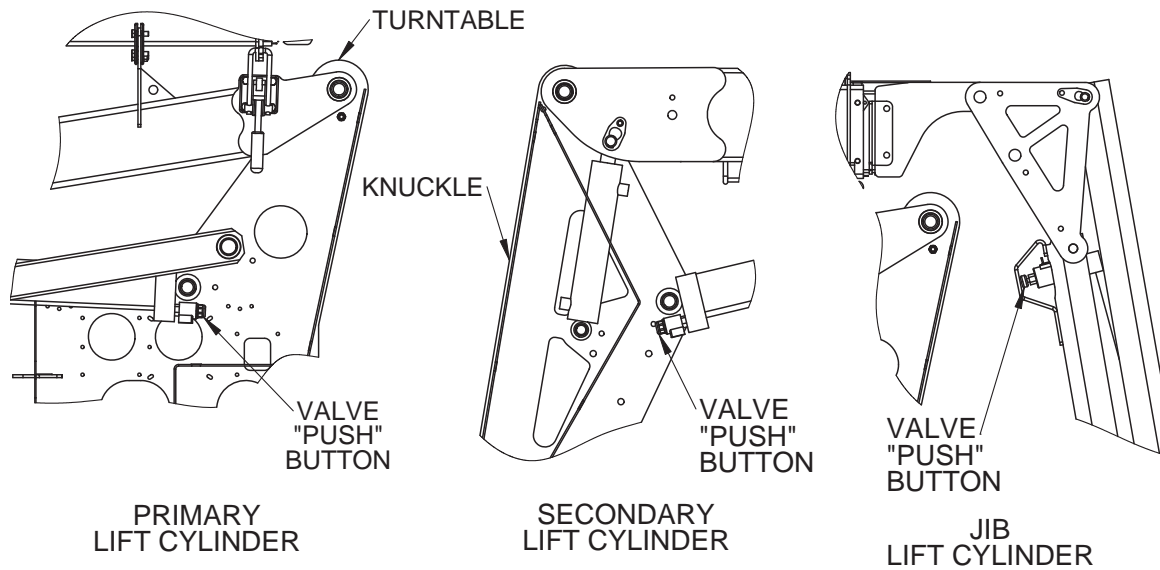

Figure 5-3. Location of Manual Lowering Valves for Lift Cylinder Replacement
55XA / HLA 19 PX Aerial Work Platforms have three (3) lift cylinders, use the following procedure to remove and replace faulty or damaged hydraulic cylinders. Refer to Figure 5-3 for the location of these cylinders.